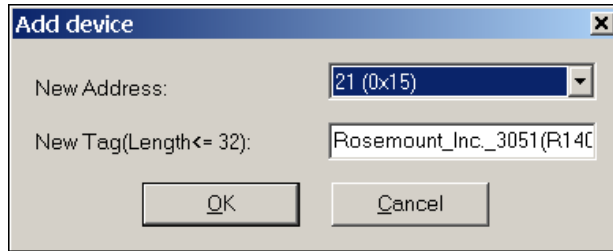

Figure 3-6. New Address and New Tag
2. When a virtual device is dropped into the project window, the following window prompts the user to set the FF network address and tag of the virtual device. The NI-FBUS Offline Configurator sets the default values. You can simply use the default address and tag, for they have been checked to ensure no repetition with other offline devices. You also can fill in the desired address and device tag, then click **OK** to add this virtual device as shown in Figure 3-6.